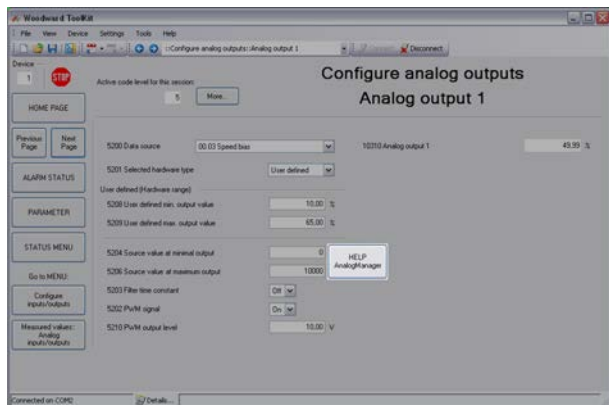

Fig. 220: Setup of external AOs
1. Configure the external analog outputs using the ToolKit screen shown in ( Fig. 220).